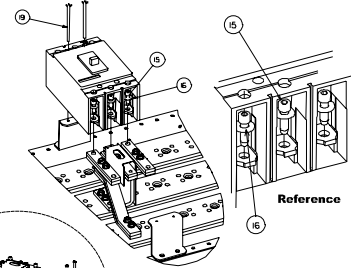

Figure 8
9. Reference fig. 8 - Install a circuit breaker by inserting one 1/4-20 socket-head cap-screw and 1/4-washer (item 15 and 16) into each of the three contacts on the line side of the breaker and into the 0.228" diameter holes in the phase links on the A, B and C phase. Torque all connections to the values as specified on the rear of the deadfront. Insert two 8-32 screws (item 19) into the two holes on the load side of the breaker and into the two tapped holes in the mounting bracket and tighten securely.